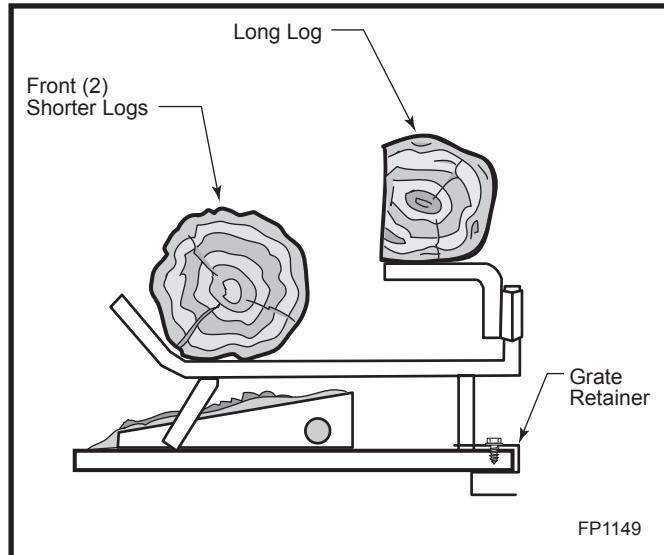

Fig. 12 OD30CFL log placement.
1. Place the larger bottom logs (longer log in back, shorter (2) logs in front) onto the grate, leaving as much space between them as possible. (Fig. 12)